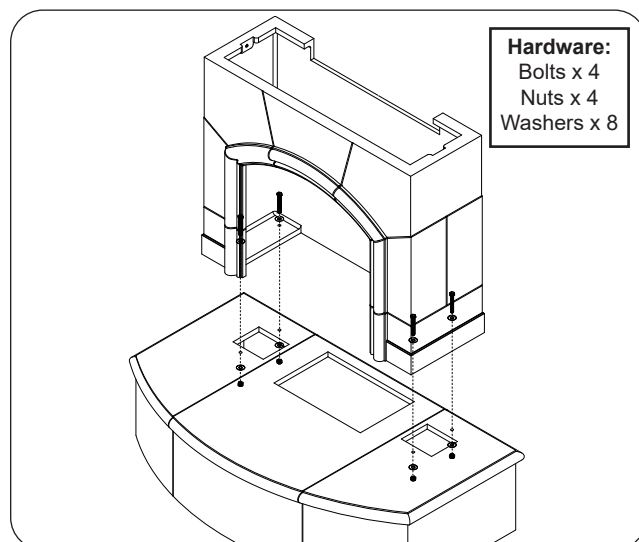

Fig. 25-1 Assemble body
1. Place the body piece on top of the hearth. Carefully align the pilot holes, and insert the hardware in the order shown in Fig. 25-1. Hand tighten, then use two 3/4" open end wrenches (or equivalent) to fasten.